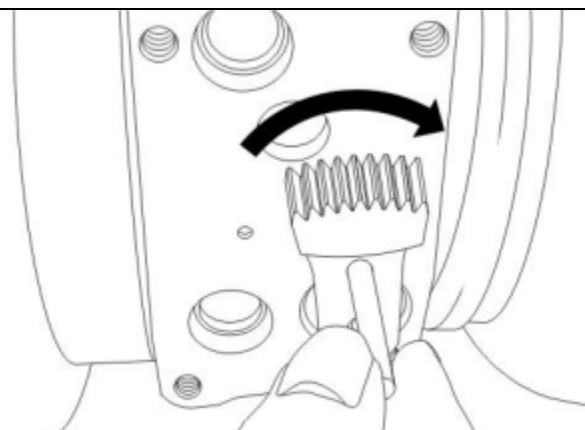

FIGURE 11
15. Rotate the sector gear fully clockwise. Make sure that the alignment pin fits through the sector gear into the alignment hole in the housing (FIGURE 11). The diameter of the alignment hole is 5mm (0.197 inch).